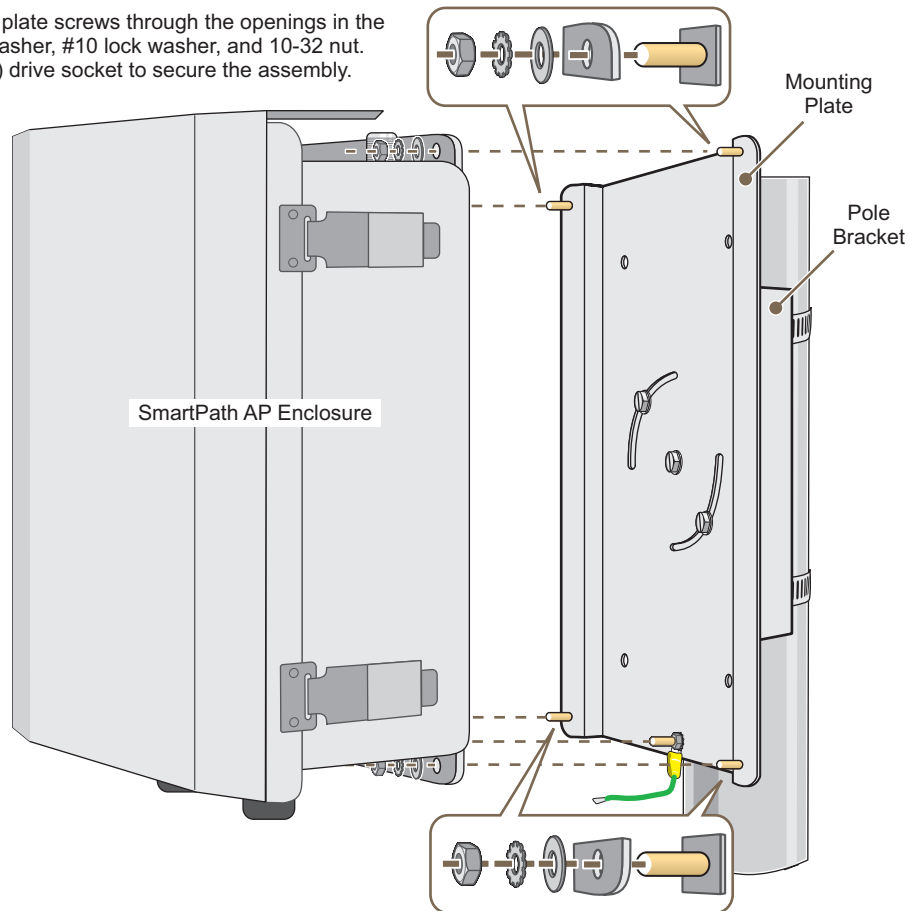

Figure 5. Attaching the enclosure to the mounting plate.
3. Connect the enclosure to the mounting plate as shown in Figure 5.